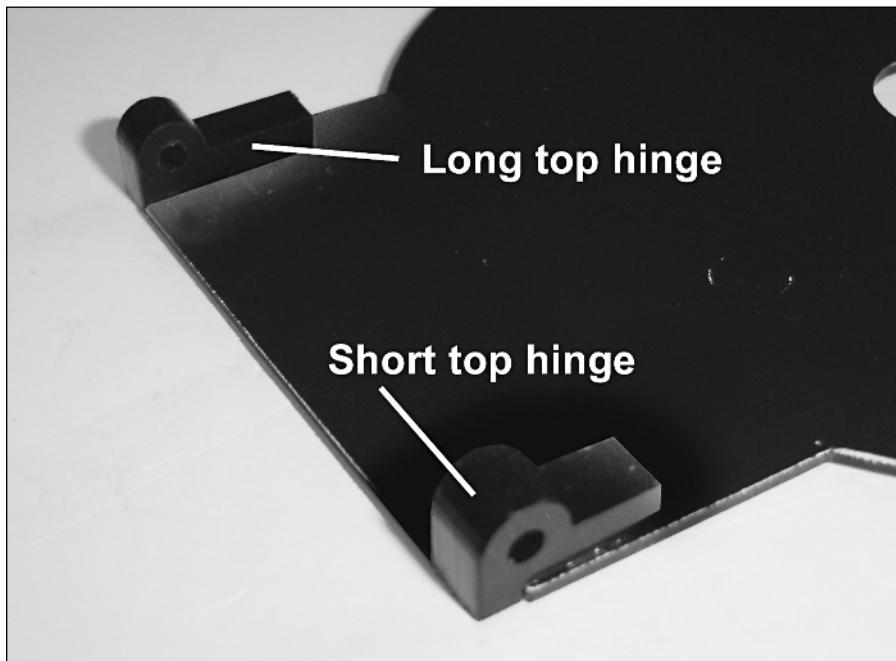

FIGURE 14-11: The hinges glued to the CD lid.
1. Glue the two upper CD hinges to the back of the CD lid, as seen in Figure 14-11. As with the lower CD hinges, there are small tabs which will fit into the notches on the lid. One of the upper CD hinges is longer. Make sure it's on the left side of the lid (when viewed from the rear). This long hinge is meant to hit the lid sensor switch.